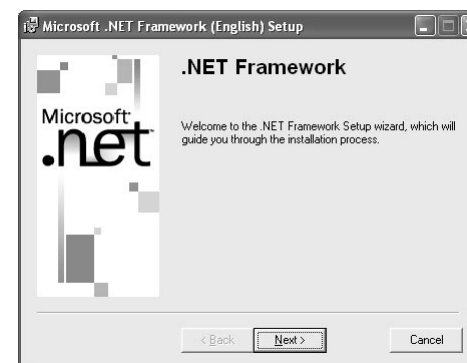

Fig.6 Microsoft .Net Framework installer start screen
- 3** The installer program shown in Fig.6 now starts. Proceed with the installation by following the installer instructions.